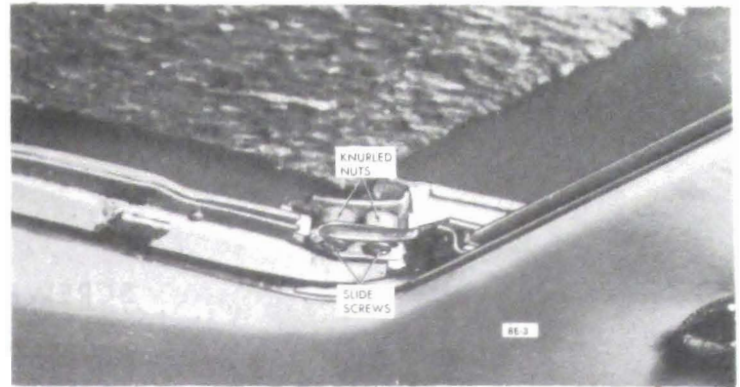

Figure 8E-3 Panel Alignment - Front
1. To obtain a flush fit, loosen 3/8" lock nut on rear slide. See Figure 8E-4.